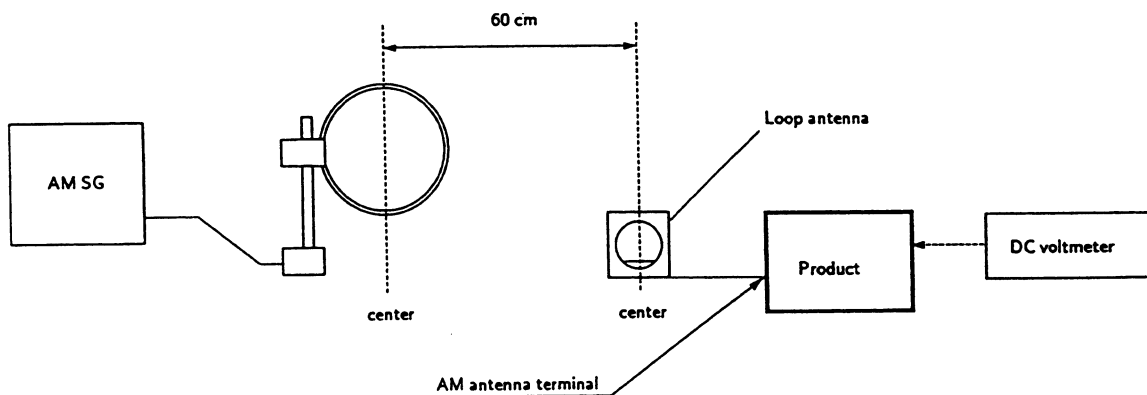

Fig. 5-2 AM Adjustment Connection Diagram
- Connect as shown in the Fig. 5-2.